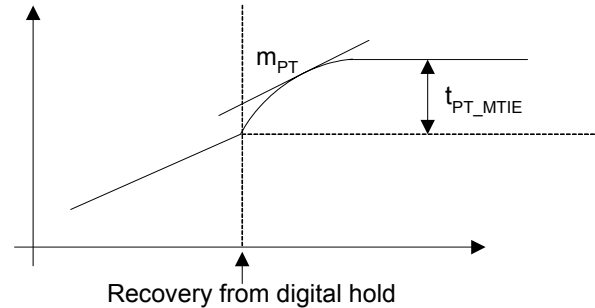

Figure 8. Recovery from Digital Hold
- Updated Figure 8, “Recovery from Digital Hold,” on page 20.